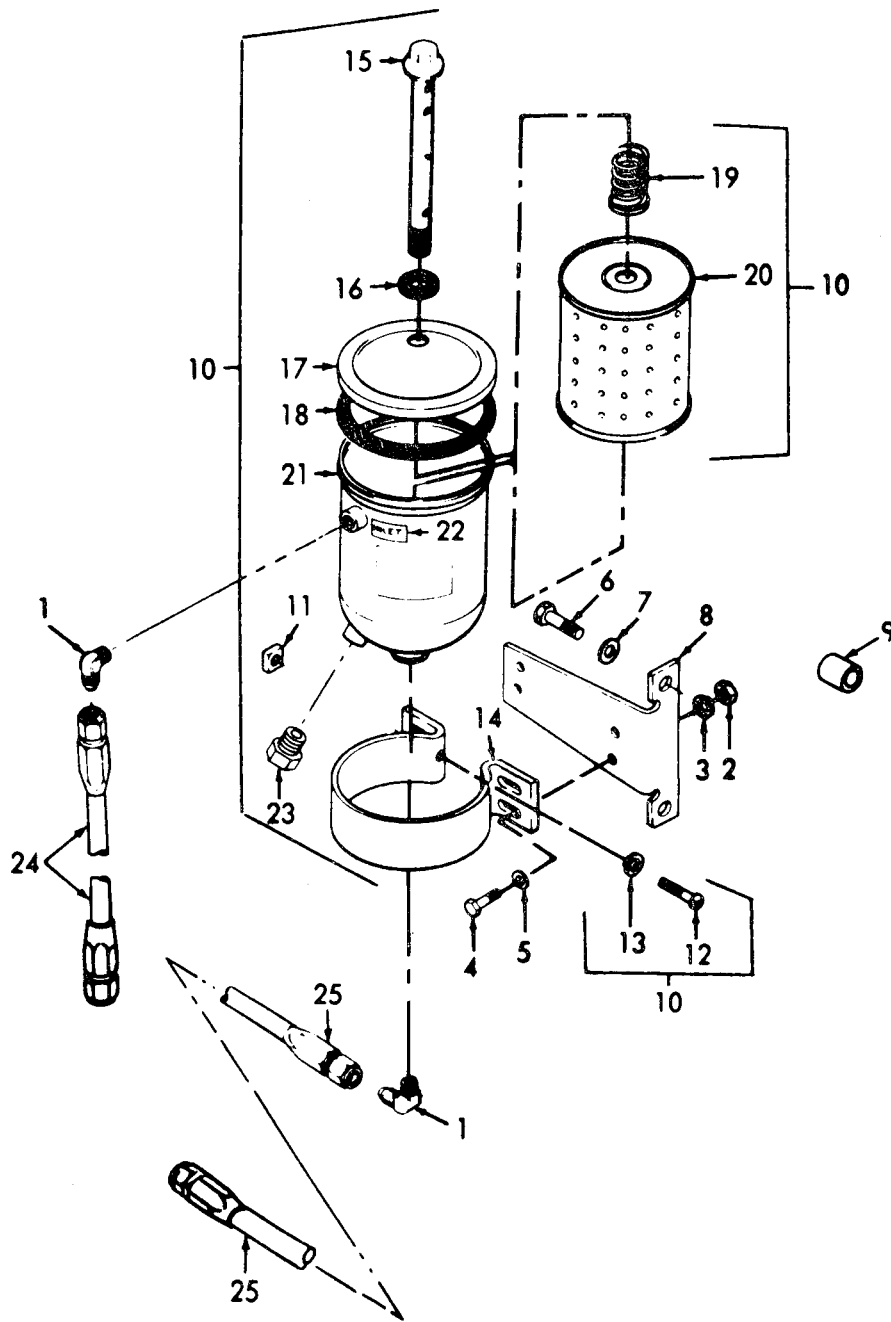

Figure 10-1. Oil Filter and Hose Assembly.
- a. Removal (Refer to figure 10-1).
- (1) Remove drain plug (23) and allow the oil to drain into a suitable container.
- (2) Disconnect hose assemblies (24) and (25) from the filter assembly (10).
- (3) Remove four nuts (2), lockwashers (3), flat washers (5), and cap screws (4) to remove oil filter clamp (14) from bracket.
- (4) Do not remove bracket (8) unless inspection reveals damage.
- (5) Remove the two elbows (1) from the filter housing.
- (6) Remove square nut (11), flat washer (13) and screw (12), to remove clamp (14) from filter assembly (10).
- (7) Refer to figure 10-1 and disassemble the oil filter assembly.
## LEGEND FOR FIGURE 10-1: